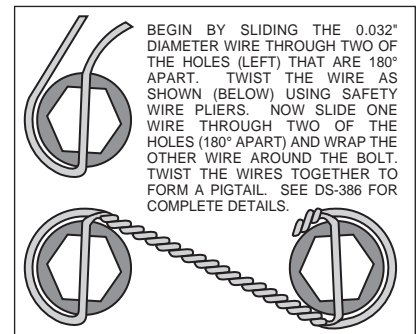

Figure 3. Safety Wire Diagram
- The rotor (3) has two sides. A flat side and an inset side. Bolt hat (2) to flat side of rotor (3) by sliding one of the T-nut's (4) into the "T" slot on the hat and attaching the rotor using a lock washer (5) and bolt (6) through the mounting holes in the rotor (3) into the corresponding hole in the T-nut (4). Finger tighten only at this time. Repeat this procedure for the remaining T-nut's, lock washers and bolts. Insert the T-nut tool (supplied in the bolt kit) into the slot between the T-nut (4) and hat (2) up to the flat spot on the T-nut tool shaft. Torque bolt (6) to 198 **in-lb**. Remove T-nut tool and insert into the T-nut slot on opposite side of hat and torque bolt (6) to 198 **in-lb**. Repeat until all T-nuts (4) have been tightened and torqued to proper specification. Safety wire bolts (6) using standard 0.032 inch diameter stainless steel safety wire as shown in Figure 3. Please refer to Wilwood's data sheet DS-386 (available at www.wilwood.com/Pdf/DataSheets/ds386.pdf) for complete safety wire installation instructions. **NOTE:** Reference Wilwood data sheet DS-440 (supplied with this document) for additional information if necessary.